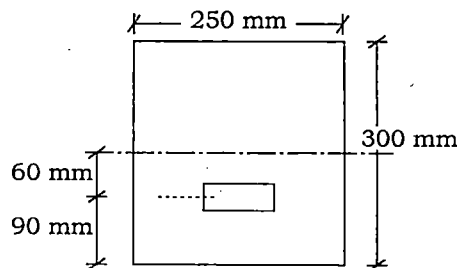

Fig. 7
- (b) A pre-stressed concrete beam section is  $250 \text{ mm} \times 300 \text{ mm}$  as shown in Fig. 7. The initial pre-stressing force is 450 kN at an eccentricity of 60 mm. The beam has a span of 5.75 m and has to carry a superimposed load of  $7.5 \text{ kN/m}$ . Analyze the beam section for the stresses produced at the mid-span before and after the application of load. Allow a loss of 15% :